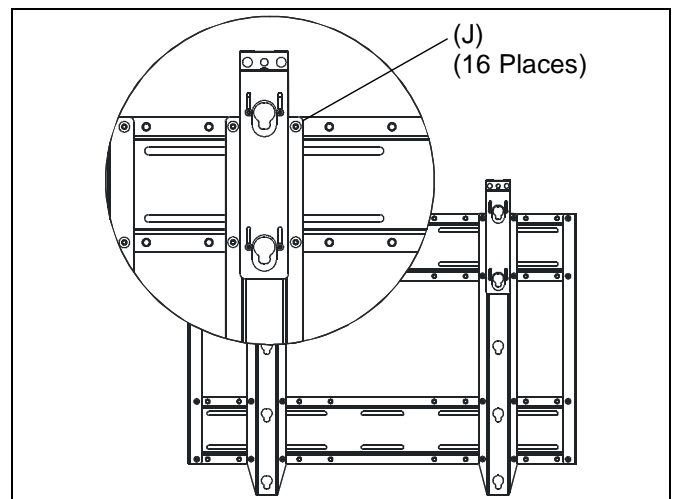

Figure 10
- 24" horizontal dimension: Install brackets (B) to middle set of mounting holes. (See Figure 10)